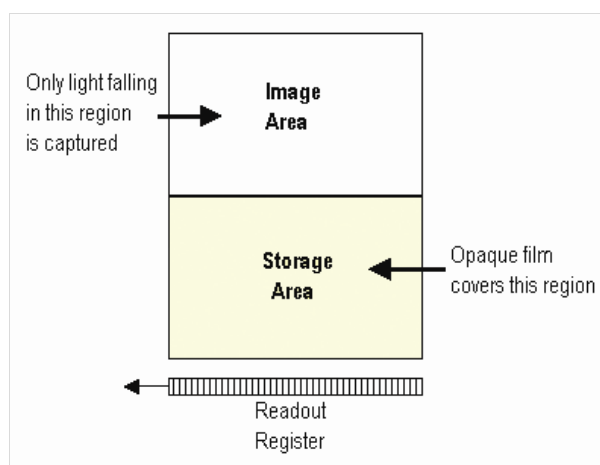

Figure 7: Frame Transfer CCD
1. Firstly, an FT CCD contains 2 areas, of approximately equal size (see **figure 7** below).